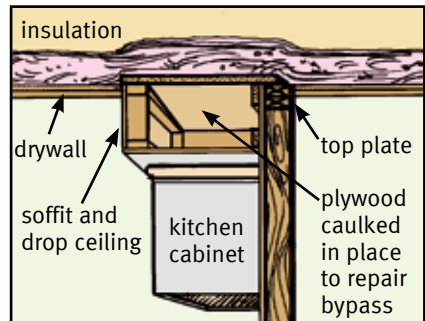

Figure 10 - Soffit areas
- **Soffits, bulkheads and dropped ceilings.** Cover openings into attic area with plywood and seal to the attic side of the ceiling (see Figure 10).